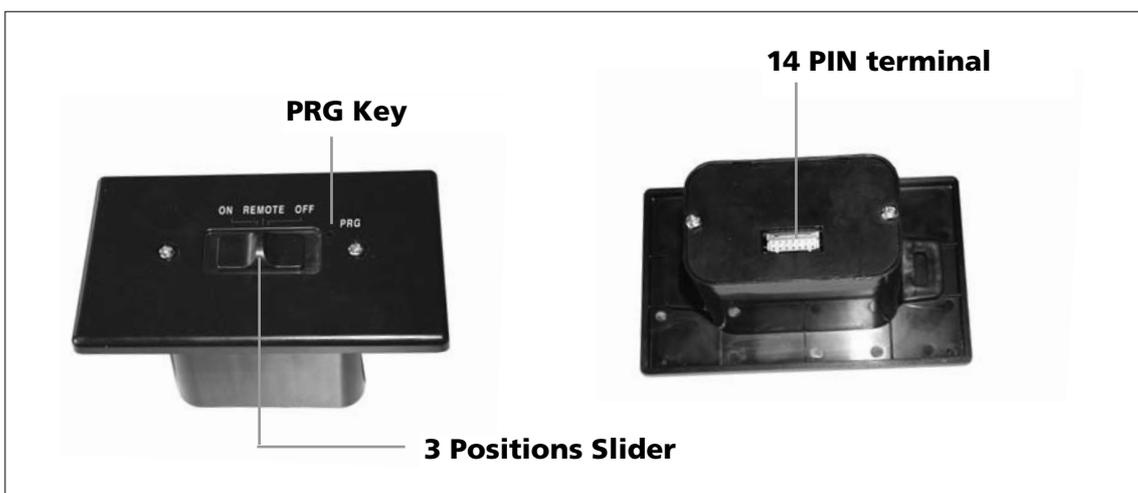

Fig. 1: Proflame Receiver body.
The Proflame Receiver (Fig. 1) connects directly to the gas valve, stepper motor, Split Flow burner controller and the Fan Control Module with a wiring harness. The Receiver is powered by 4 AA type batteries. The Receiver accepts commands via radio frequency from the Transmitter to operate the appliance in accordance with with the particular Proflame system configuration. The Receiver three position slider switch can be set to one of three positions: ON (Manual Override), Remote (Remote control) or Off.
Install the 4 AA batteries into the receiver battery bay. Note the polarity of the battery and insert into the battery bay as indicated on the Battery cover (+/-). Place the 3 position slider switch in the "Remote" position. (Fig. 1) Using the end of a paper clip, or other similar object, insert the end of the paper clip into the hole marked "PRG" on the Receiver front cover (fig 1). The Receiver will "beep" three (3) times to indicate that it is ready to synchronize with a Transmitter. Install the 3 AAA type batteries in the Transmitter battery bay, located on the base of the Transmitter. With the batteries already installed in the Transmitter, push the On button. The Receiver will "beep" four times to indicate the Transmitter's command is accepted and sets to the particular code of that Transmitter. The system is now initialized.